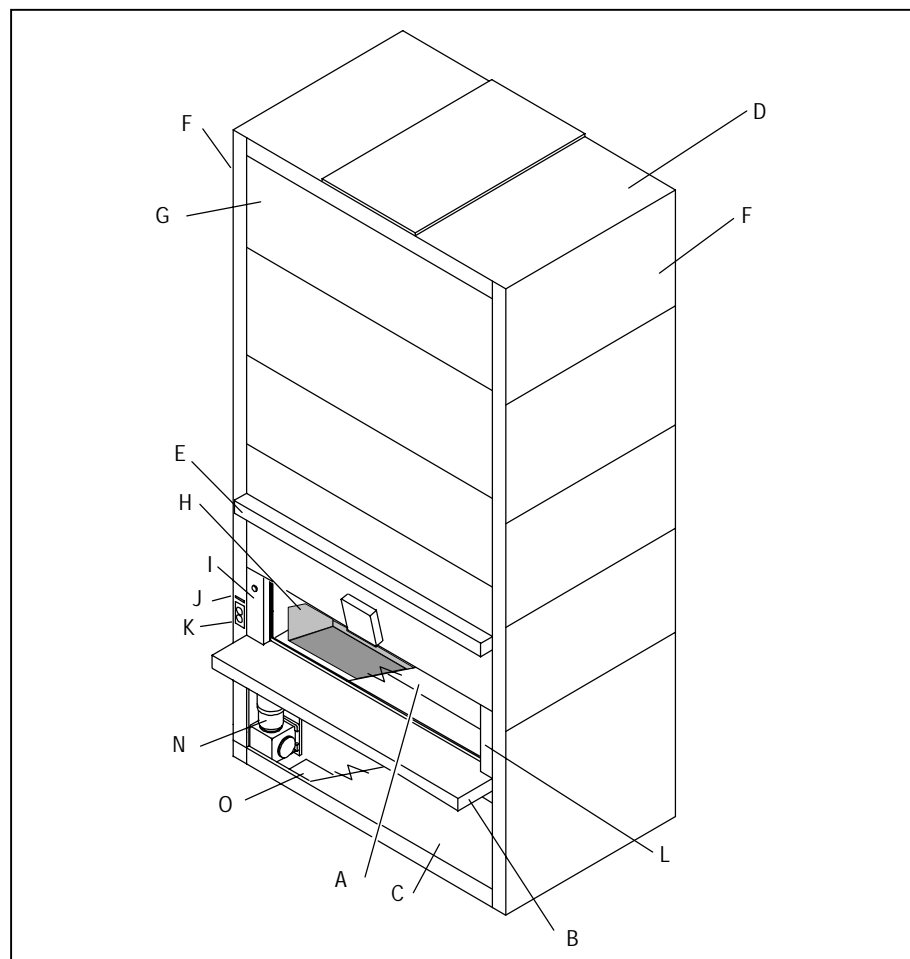

Figure 3. VERTICAL CAROUSEL ASSEMBLY
The enclosure (see Figure 3) is made up of modular, bolt-together steel panels (F).